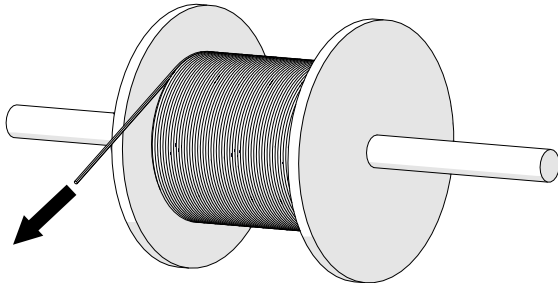
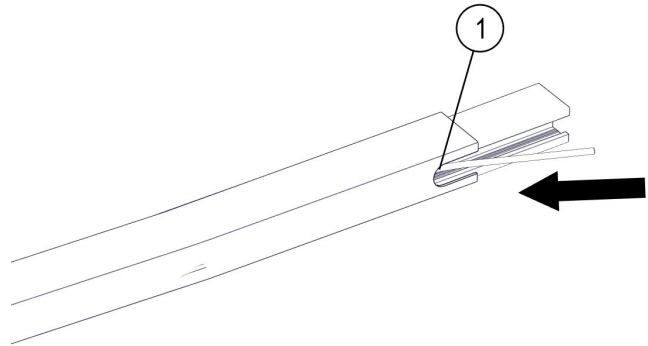

Fig.12: Unwind heating wire from spool
Fig.13: Pull the heating wire through the slot of the insulation profile
→ Wind the heating wire off the spool (see Fig.12) and, at the infeed point of the heating wire (see item 1 in Fig.13), pull the wire straight through the cavity of the conductor rail profile before installing the connectors and the infeeds. When inserting the heating wire, make sure that the heating wire does not hit the sharp edges of the slot in the insulation profile and the conductor bar (see Fig.13).